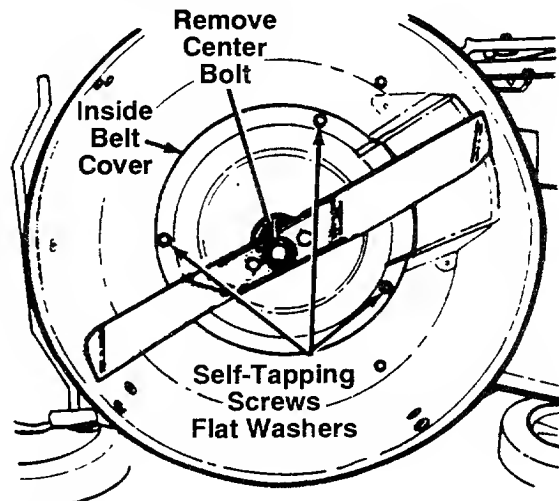

FIGURE 15.
- Remove the center bolt which secures the blade to the crankshaft. See figure 15. Remove the blade and blade adapter.